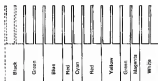

Fig. 10-7 Adjustment
2. Adjust VR104 to obtain the color bar arrangement shown in Fig. 10-7.
1. Press the COMP key to display the computer mode screen with the color bar output (see Fig. 10-7).